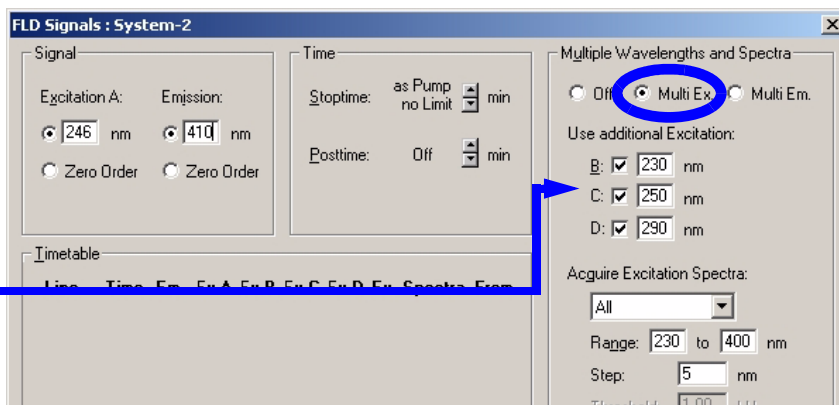

Figure 25 FLD Parameters
- 2 Set the FLD setpoints according to Figure 25 (on the local Control Module G1323B, this information is split across separate screens).